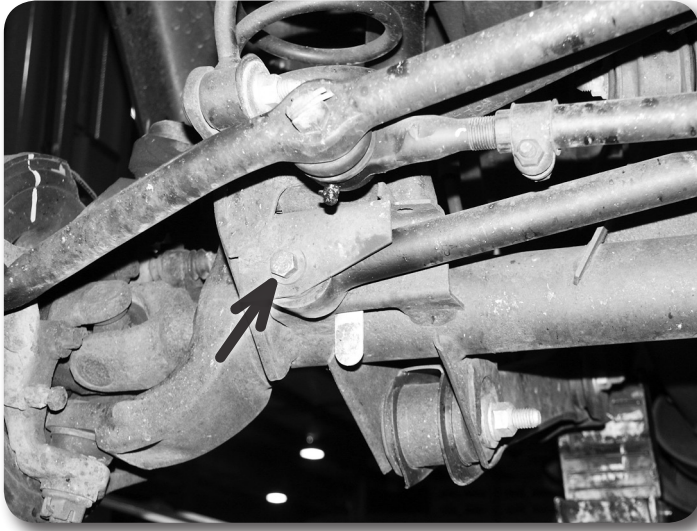

Figure 1
3. Remove the bolt mounting the front track bar to the passenger's side of the axle **Figure 1**. Save track bar bolt and nut tab. Allow the track bar to hang free.